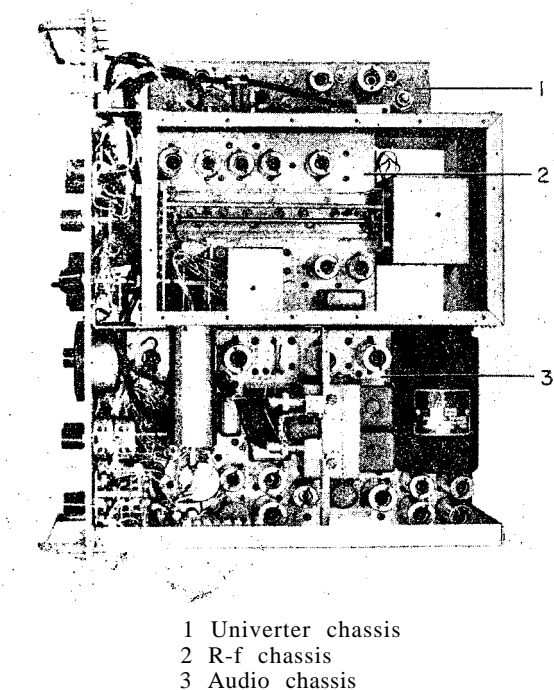

Figure 1-3. Signal Generator SG-13/ARN,
1-8. SIGNAL GENERATOR. The signal generator (figure 1-3) is mounted in a combination case having a waterproof snap-on cover (figure 1-2) that contains all accessories necessary for operation within 10 feet of the equipment under test. The signal generator is divided into two sections that have a common front panel.
a. The r-f section contains all the circuits necessary to produce the required r-f signals. It comprises a shielded r-f chassis, (2, figure 1-3) for producing r-f signals in 280 channels spaced at 100 kc
intervals in the range of 108.0 to 135.9 megacycles and a shielded univertter chassis (1, figure 1-3) for producing r-f signals spaced at 100 kc intervals in the range of 329.3 to 335.0 megacycles for glide slope testing. The r-f chassis also contains a piston type attenuator allowing the r-f output to be varied from 4 to 200,000 microvolt.
b. The audio section (3, figure 1-3) contains all the circuits necessary to produce the required audio signals for modulating the r-f carrier and the power supply for the signal generator. An audio selector switch is used to select the type of modulating signal desired.